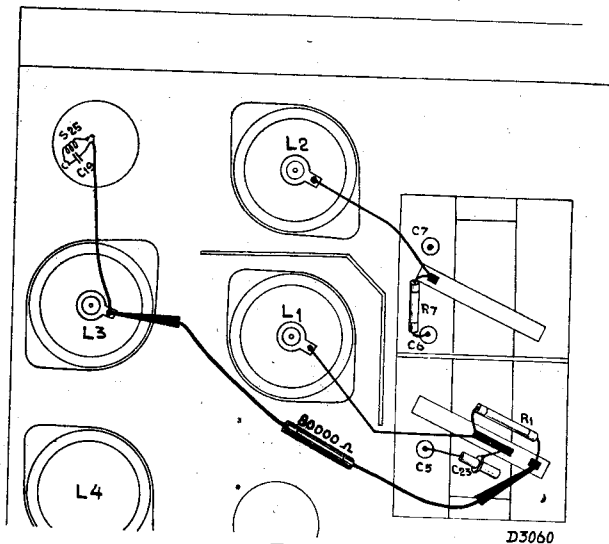

Fig. 3
5. Damp the second circuit by connecting a resistance of 80,000 ohms in parallel with S25. (See fig. 3).